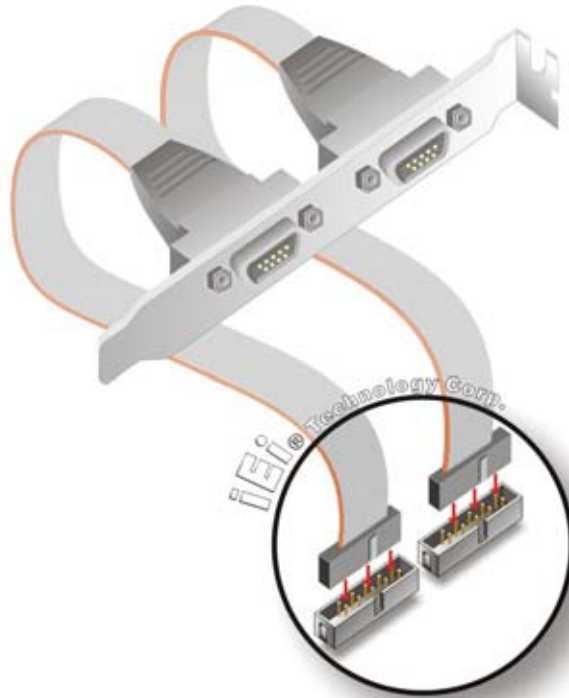

Figure 5-8: Dual RS-232 Cable Installation
Step 6: **Insert the cable connectors.** Insert one connector into each serial port box headers. See **Figure 5-8**. A key on the front of the cable connectors ensures the connector can only be installed in one direction.